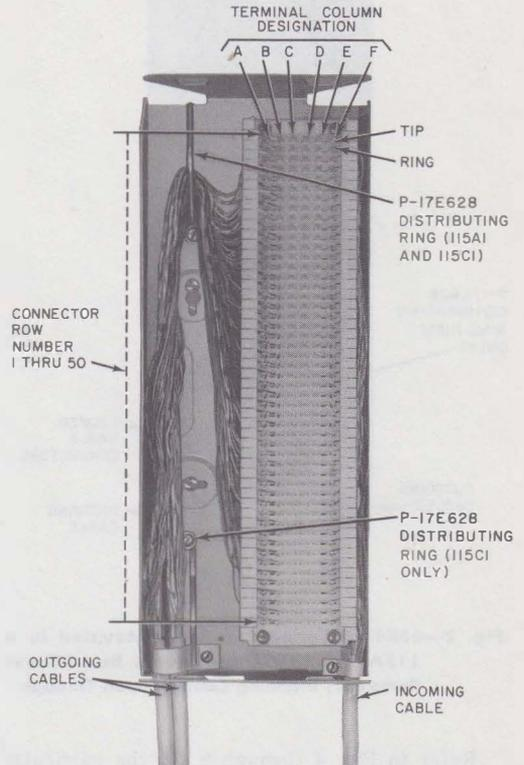

Fig. 1—66B4-25 Connecting Block Mounted in a 115A1 or 115C1 Apparatus Box (Cover Removed) Incoming Cable Dead Ended
1.002 This addendum is issued to correct Fig. 1 and 2 and associate the correct picture with the correct title.
- (a) Fig. 1—revised.
- Change Fig. 1, 2, and 3 to show new location (inside apparatus boxes) of cable clamps.
2.01 The connecting block numbering plan is dependent upon the blocks being wall mounted with the long side vertical. The first terminal in the upper left hand corner is designated 1A (Fig. 1, 2, and 3).
3.01 Terminate an incoming cable which does not loop to another block or location (Fig. 1) as follows:
- (3) Tape exposed conductors if cable sheath on loose end does not extend into terminal box.
- (4) Fasten incoming cable at location shown in Fig. 1, 2, and 3 using appropriate cable clamps.
3.04 Terminate outgoing station wire or cable (Fig. 1 and 2) in a 115A1 or 115C1 apparatus box as follows:
- (1) Place distributing ring at opposite end of box from which cable will leave box.
- (2) Remove cable sheath for approximately twice the length of connecting block, allowing for sheath end to extend inside housing.
- (3) Fasten outgoing cable at location shown in Fig. 1, 2, and 3 using appropriate cable clamps.